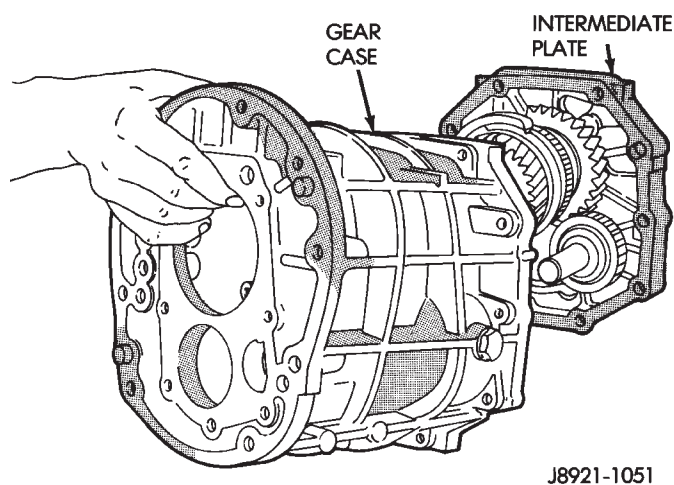

Fig. 21 Gear Case Removal
(6) Remove gear case from geartrain and intermediate plate (Fig. 21).
(7) Remove speedometer gear snap ring and remove speedometer gear and spacer from output shaft.